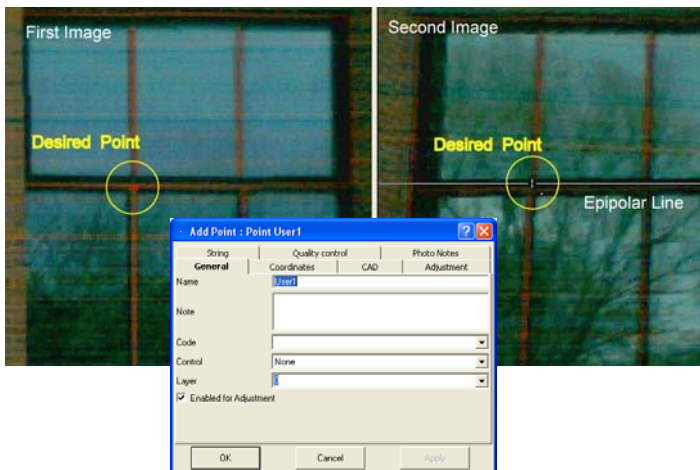

Figure 10-5. Measuring Coordinates of Point Using Stereopairs
2. With the ‘add point’ cursor, click the desired point on the first (left or right) image (Figure 10-5). The cursor automatically moves to the second image.